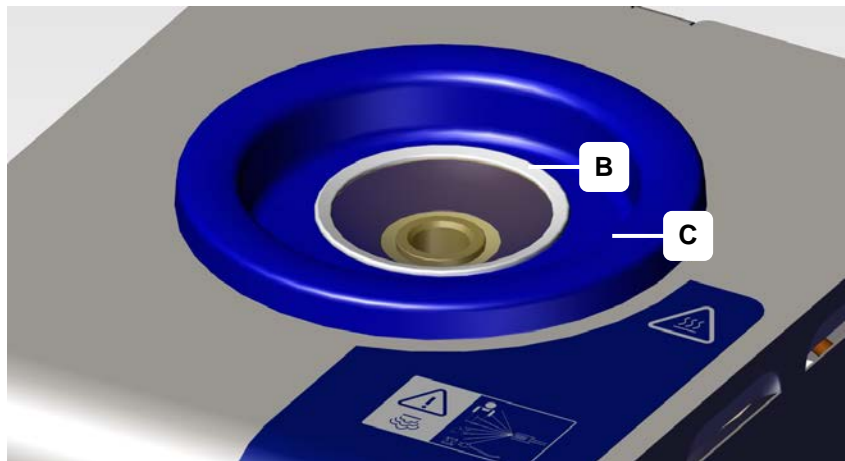

Figure 6.2.2: Laying the sieve into the collecting tray
3. Insert the sieve (Figure 6.2.2) from the scope of delivery into the collection tray.